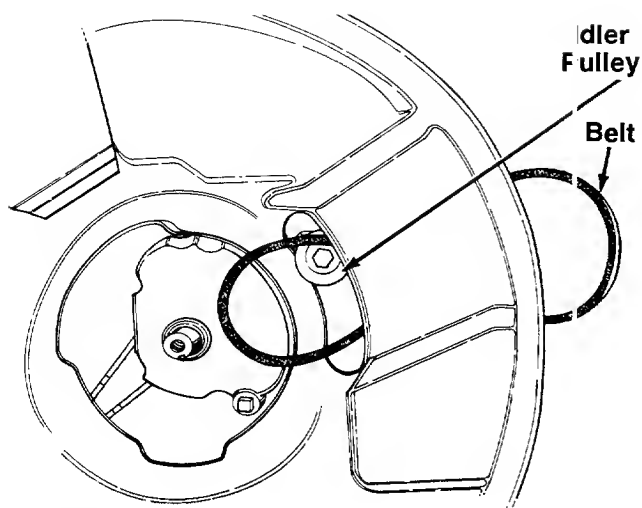

FIGURE 27.
- A. Push the idler pulley up out of the way as shown in figure 27.
- B. Slide the belt in from the rear of the deck, and place it around the transmission pulley. See figure 27.